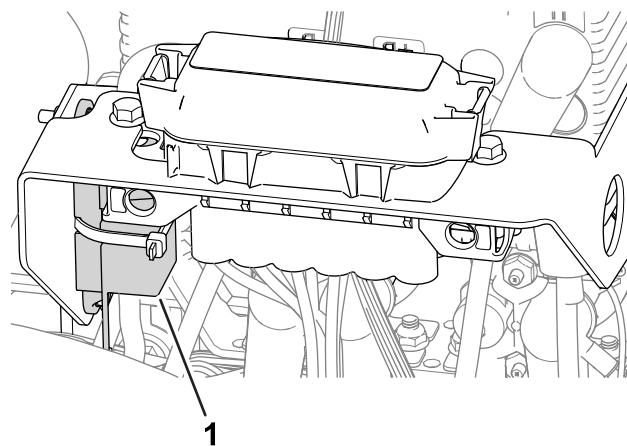

Figure 57
- The fuse for the left wheel motor (60 A) is located under the cover on the left side of the machine, near the reel-drive-circuit fuses (Figure 57).